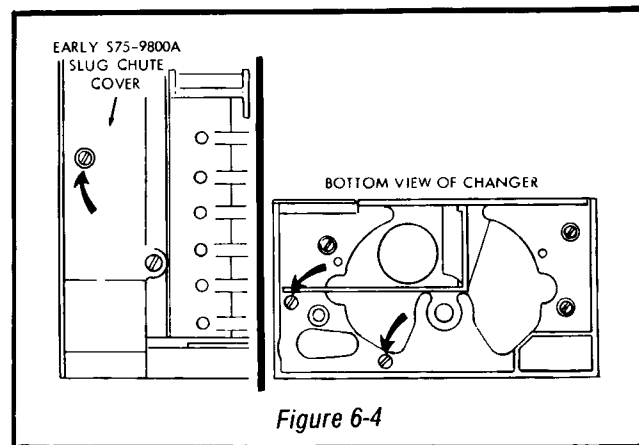

Figure 6-4
2. Changing the Payout Motor - (Figure 6-4)